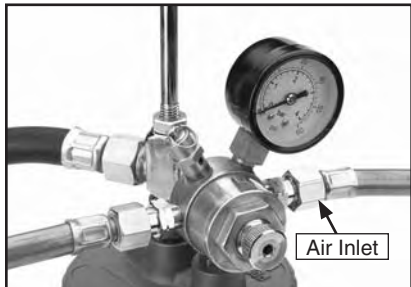

Figure 7. Compressed air inlet location.
6. Attach the compressed air line to the air inlet as shown in **Figure 7**. However, wait until you have mixed your paint material and are ready to spray to complete this step (see **Spraying** on **Page 11**).